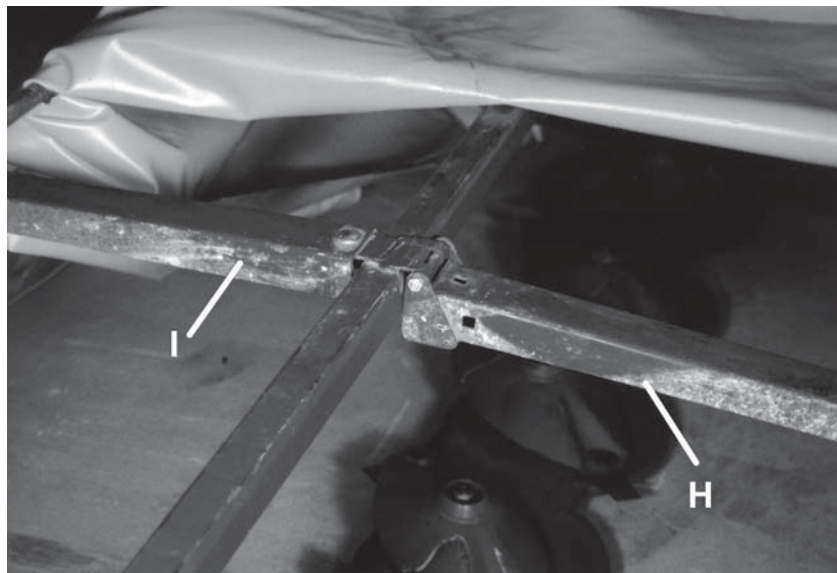

Figure 6
8. Attach the Front Cover Frame (H) and the Rear Cover Frame (I) to the main cover frame using 3 M10 x 100mm bolts, six M10 x 25mm bolts. Do not tighten the hardware until both frames are fully installed. (See **Figure 6**.) Only front frame folds, rear frame is fixed in place.